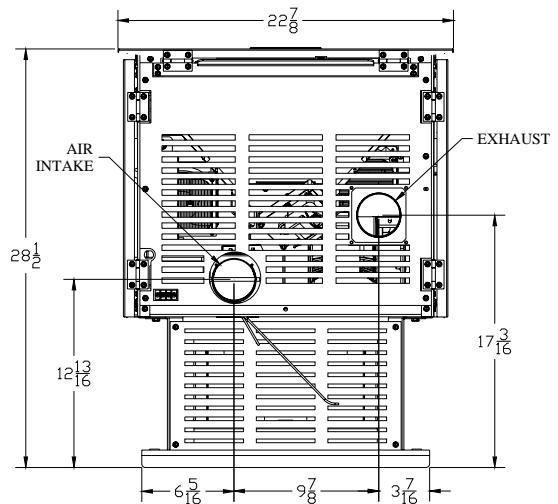
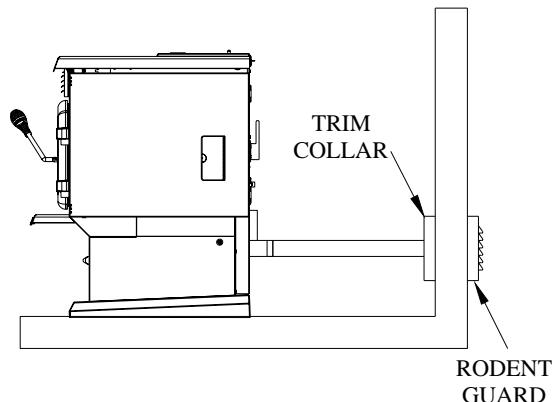

Figure 4
Figure 5
For a mobile home installation the stove must be connected to an outside source of combustion air. A 3" inside diameter metallic pipe, either flexible or rigid, may be attached to the inlet at the stove's rear (refer to figures 4, 5 & 6). A rodent guard (minimum 1/4" wire mesh) must be used at the terminus (refer to figure 5). All connections must be secured and airtight by either using the appropriately sized hose clamp and/or UL-181-AP foil tape.
- A hole in the wall behind the stove.(Figure 5)
2. Determine position of hole in wall; directly behind stove exhaust vent (refer to figure 4).